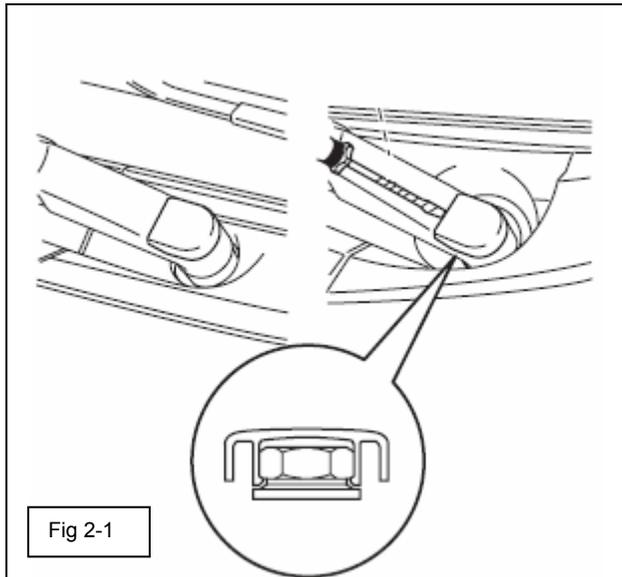

Fig 2-1
- (1) Remove wiper arm head caps with nylon pry tool or pull off with fingers.(Fig.2-1)
- (2) Remove nuts and pull wiper arms off of wiper drive studs (x2) (14mm).